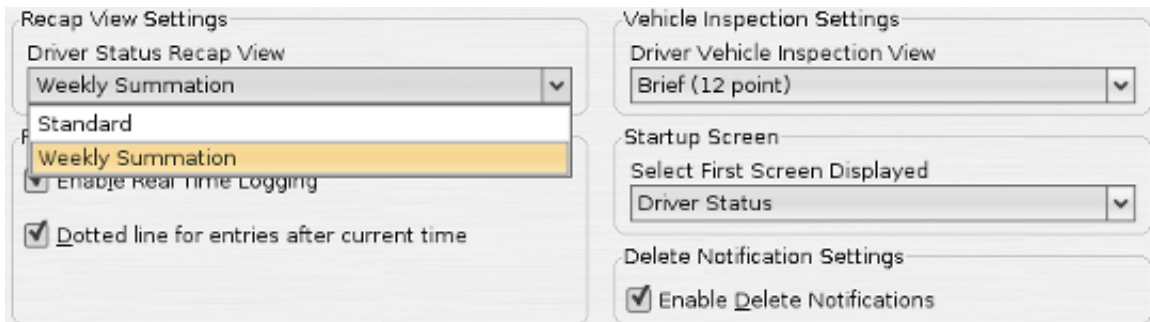

Figure 4.7. Settings Navigation Bar (Display)
3. Under the "Recap View Settings" select the "Weekly Summation" option see Figure 4.7, "Settings Navigation Bar (Display)"